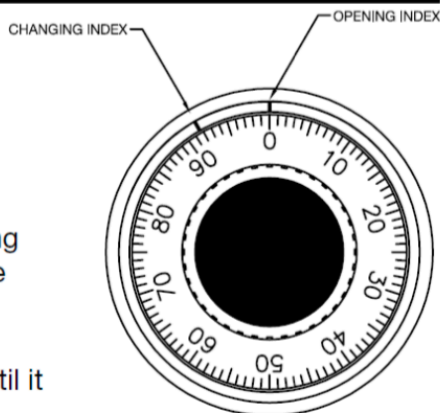

Figure 1
1. Dial the existing combination using the **CHANGING** Index. (Figure 1.)